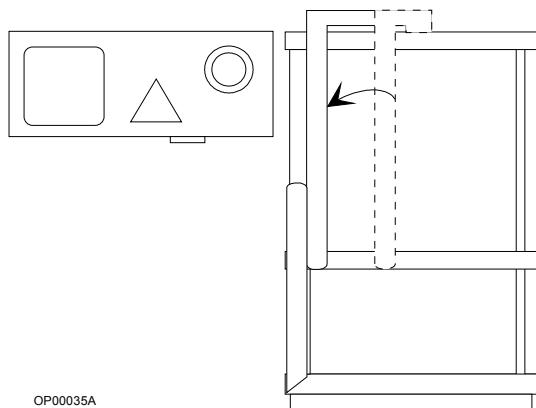

Figure 10-8. Reseating the Piston Assembly
4. Swing the piston assembly handle to the left and down as far as possible. See Figure 10-8.